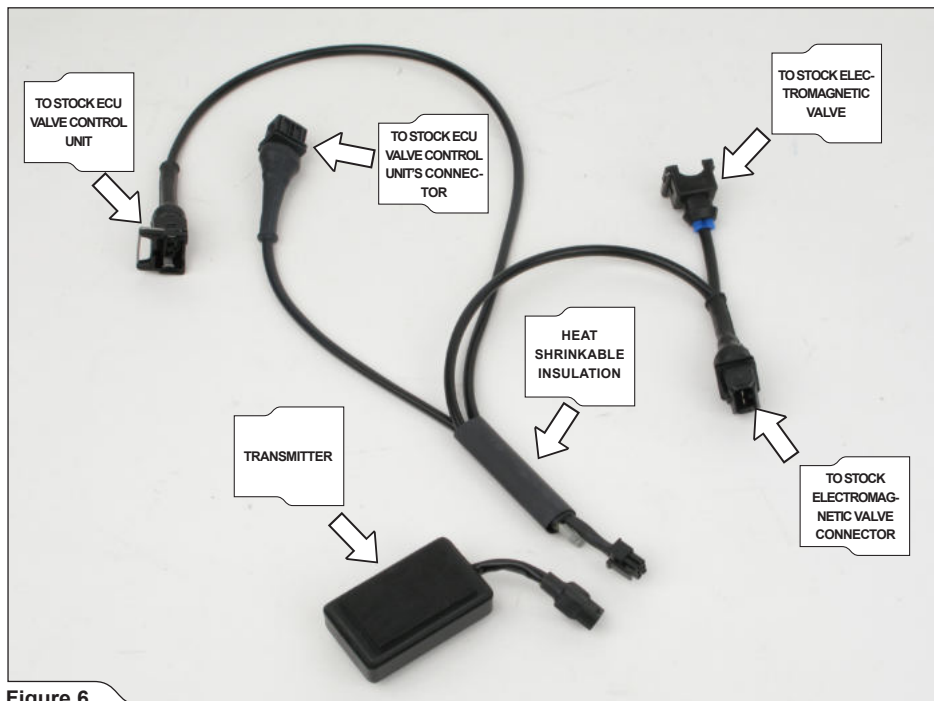

Figure 6
5. Wireless kit wiring harness (Figure 6).